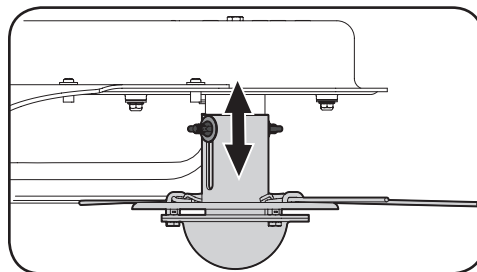

Figure 3-2
2. Slide the spindle upward or downward to the desired position before retightening the wing nuts. See Figure 3-2.